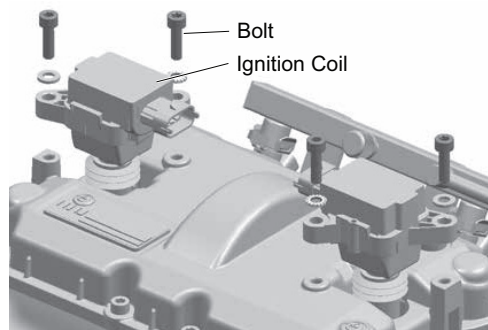

Fig. 12 Remove Ignition Coil
3. Remove the bolts and washers securing the ignition coils to the engine (Ref. Fig. 12).